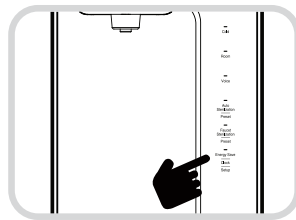

Fig. 14
- Press the Energy Save/Clock (Setup) button for three (3) seconds in the Waiting Status to put the unit in the User Setting mode. (Fig. 14). The Voice Guide will say "selecting user setting mode" "user setting mode, please set function by pressing the illuminated button".